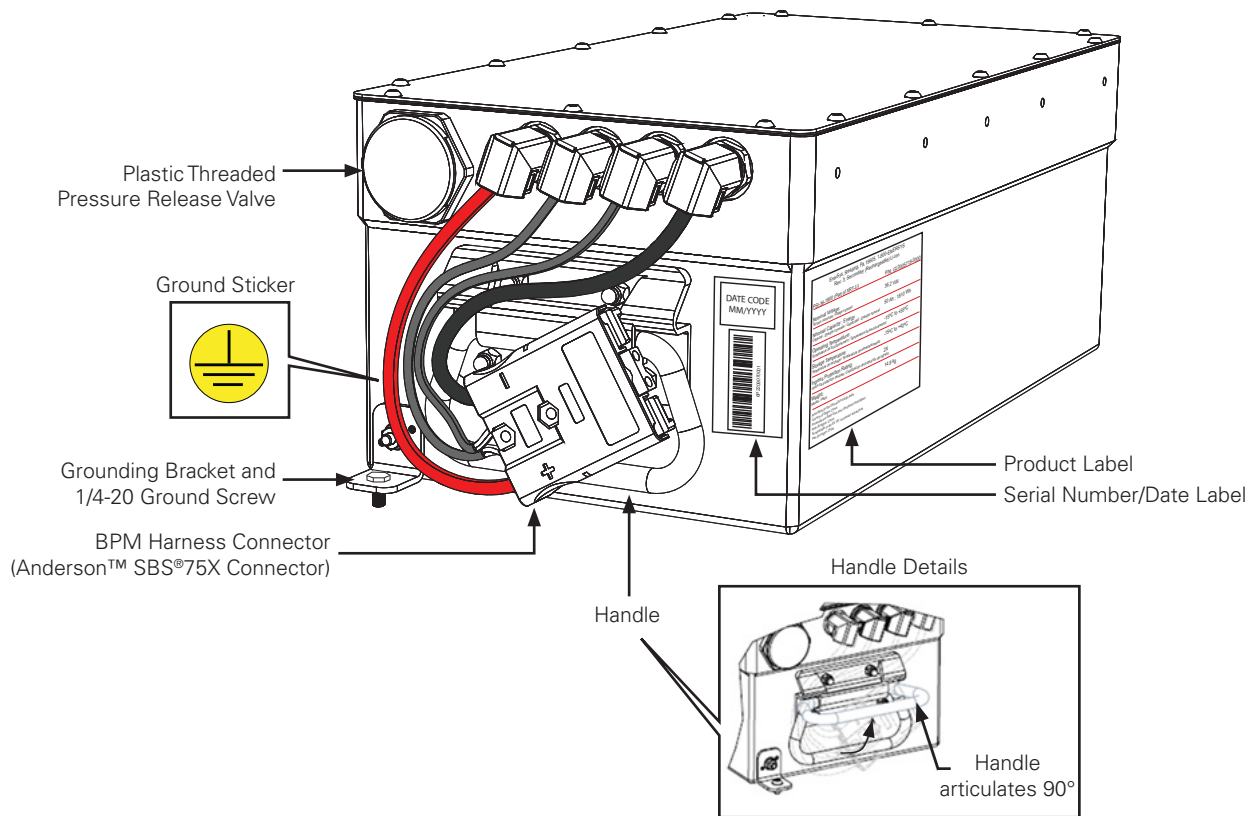

Fig. 2-2, Battery Power Module (BPM)
- See Fig. 2-2 and 2-3 for silkscreen and sticker labels.